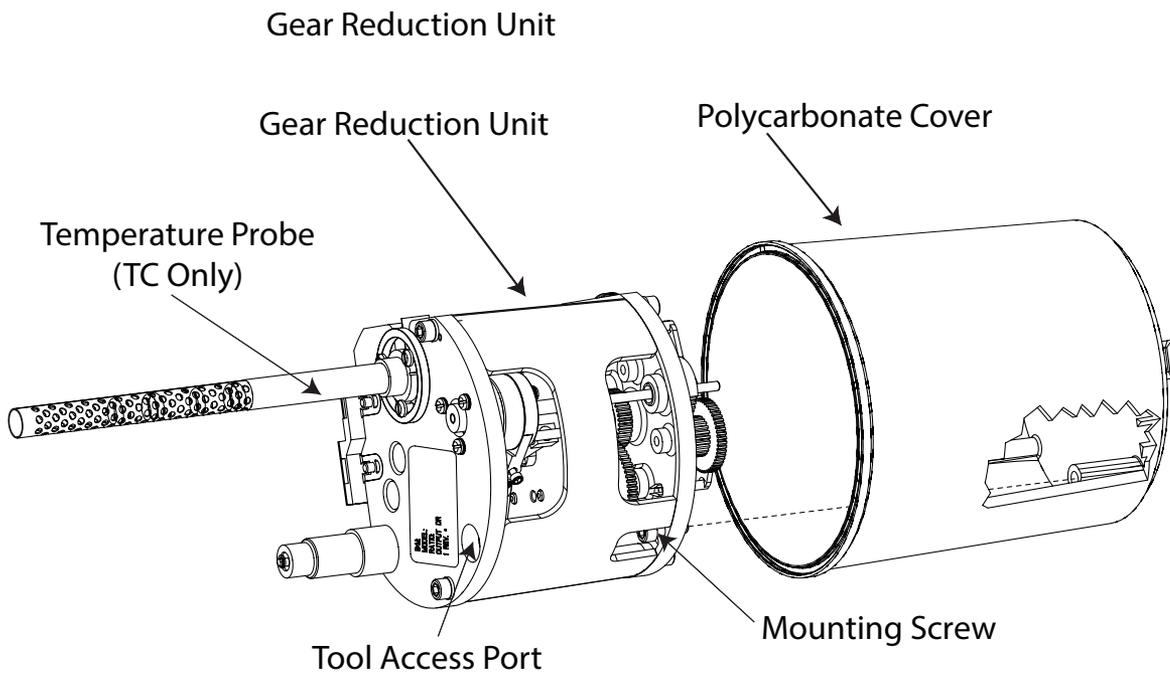

Figure 18 - Exploded view of Gear Reduction Assembly and Polycarbonate Cover
### Removing the Gear Reduction Assembly from the Polycarbonate Cover (Refer to Figure 18)
Use a 9/64" Allen wrench to remove the mounting screw holding the accessory unit in the cover. The screw can be accessed through the Tool Access Port as shown in Figure 18.
### **Replacing the Gear Reduction Unit in Polycarbonate Cover (Refer to Figure 18)**
1. Remove CTR or TC Accessory from the meter. To do this, remove the four screws securing the slip flange, and remove the slip flange. Gently pull the accessory housing assembly off the meter. Remove the screws and slip ring. Remove the CTR or TC accessory from its housing by loosening the screw inside the housing, as shown in Figure 18.
1. Remove the CTR Accessory from the meter. To do this, remove the four screws securing the slip flange and remove the slip flange. Gently pull the accessory housing assembly off the meter. Remove the screws and slip flange. Remove the CTR accessory from its housing by loosening the screw inside the housing. See Figure 18.